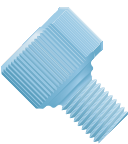
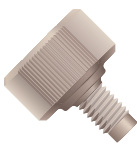

Figure 1
Figure 2
U.S. Customary System Two numbers are used to describe a thread size. The first number indicates the diameter of the threaded portion of the nut. Thread diameter numbers range from gauge 1 (0.073”) to gauge 12 (0.216”). Beyond 0.216” the thread diameter is given as the actual diameter in fractions of an inch. The second number indicates the threads-per-inch count. Thus, a 1/4-28 nut (Figure 1) has a 1/4” (0.250”) diameter thread barrel and 28 threads-per-inch. A 10-32 male nut (Figure 2) has a gauge 10 (0.190”) thread barrel with 32 threads-per-inch.